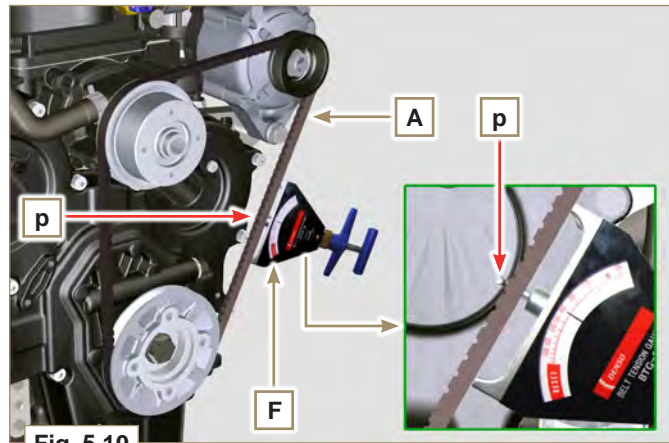

Fig. 5.10
- 5 - Check that at point **p** the tension value is between **70** and **75 Hz** for V-belt of 9 mm and **80** and **85 Hz** for V-belt of 17 mm (**Fig. 5.10**) (**H**).